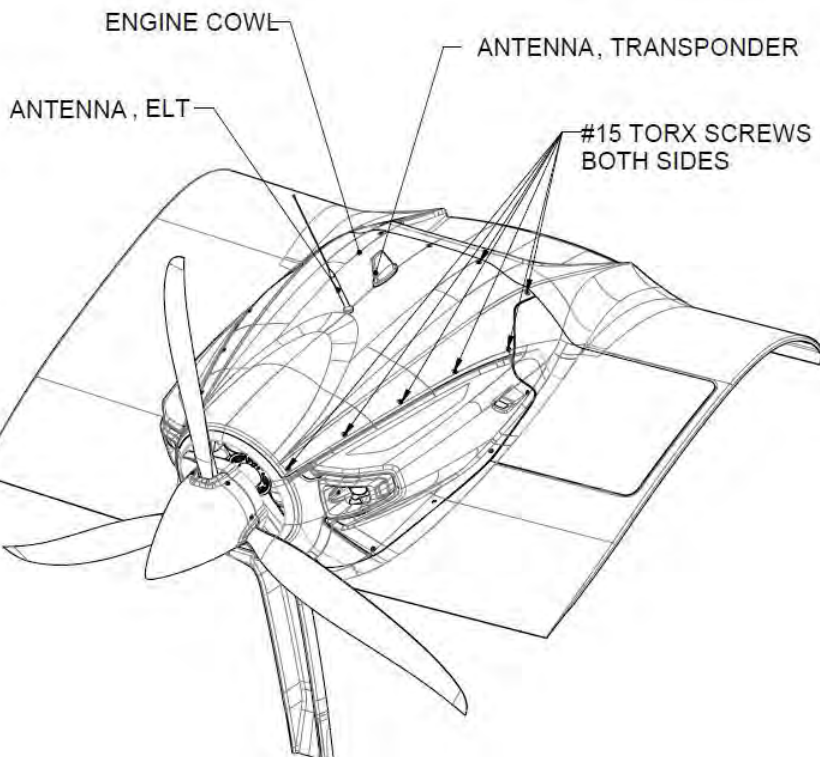

FIGURE 16-4
1. Release 16 1/4-turn fasteners from top engine cowl using a #15 Torx driver. (See Figure 16-4.)